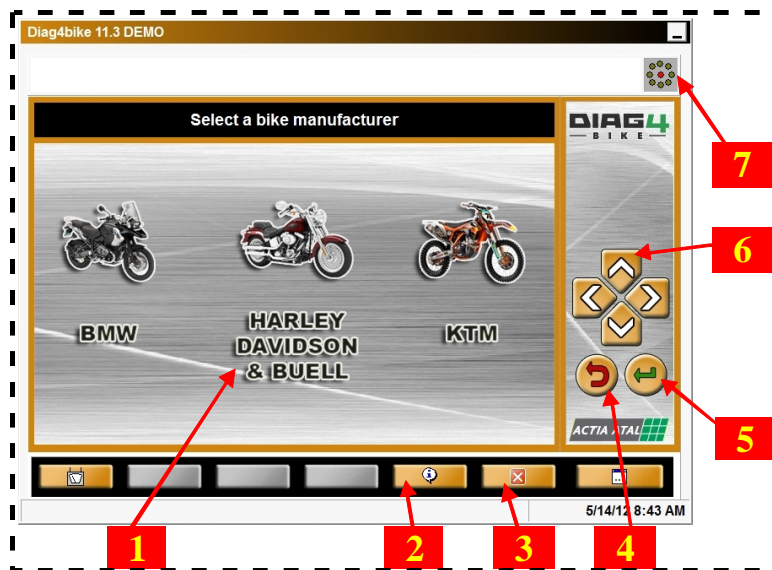

Fig. 38 – Demonstration of the initial screen after program start-up (description of control elements on the screen and explanation of symbols)
**Button descriptions** (Fig. 38):
The program can be terminated by clicking the icon  (see Fig. 38, pos 4) until the confirming dialogue box informing about the application termination comes up. This button can be replaced by clicking the **ESC** key (on the right-hand side of your keyboard).